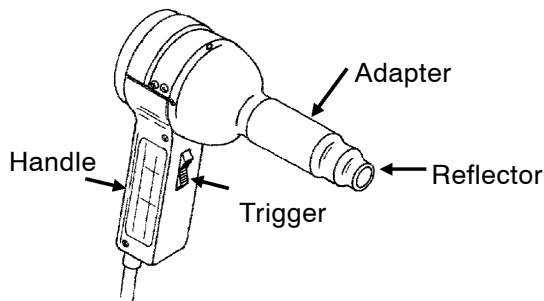

Figure 13. Mini-Gun Hot Air Tool, CV-5300/CV-5302
25 . Mini-Gun hot air tool, CV-5300/CV-5302 (Figure 13), is a lightweight hand-held tool used for applying a variety of heat-shrinkable products and solder termination products. It provides a continuous flow of heated air at temperatures of 450°-700°F (232°-371°C), depending on the hot-air reflector used. Specifications are listed in Table 4.
26. **PRE-OPERATION.** Prior to using mini-gun heating tool (Figure 13), proceed as follows:
28. **OPERATION.** To operate heating tool (Figure 13), proceed as follows: